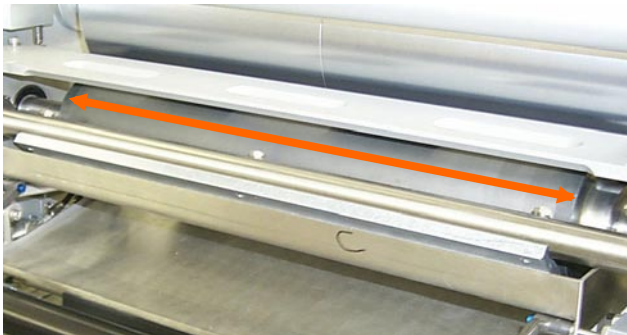

Figure E1: Anilox Roll Inking
1. Verify that the Anilox Roll is inking (Figure E1).